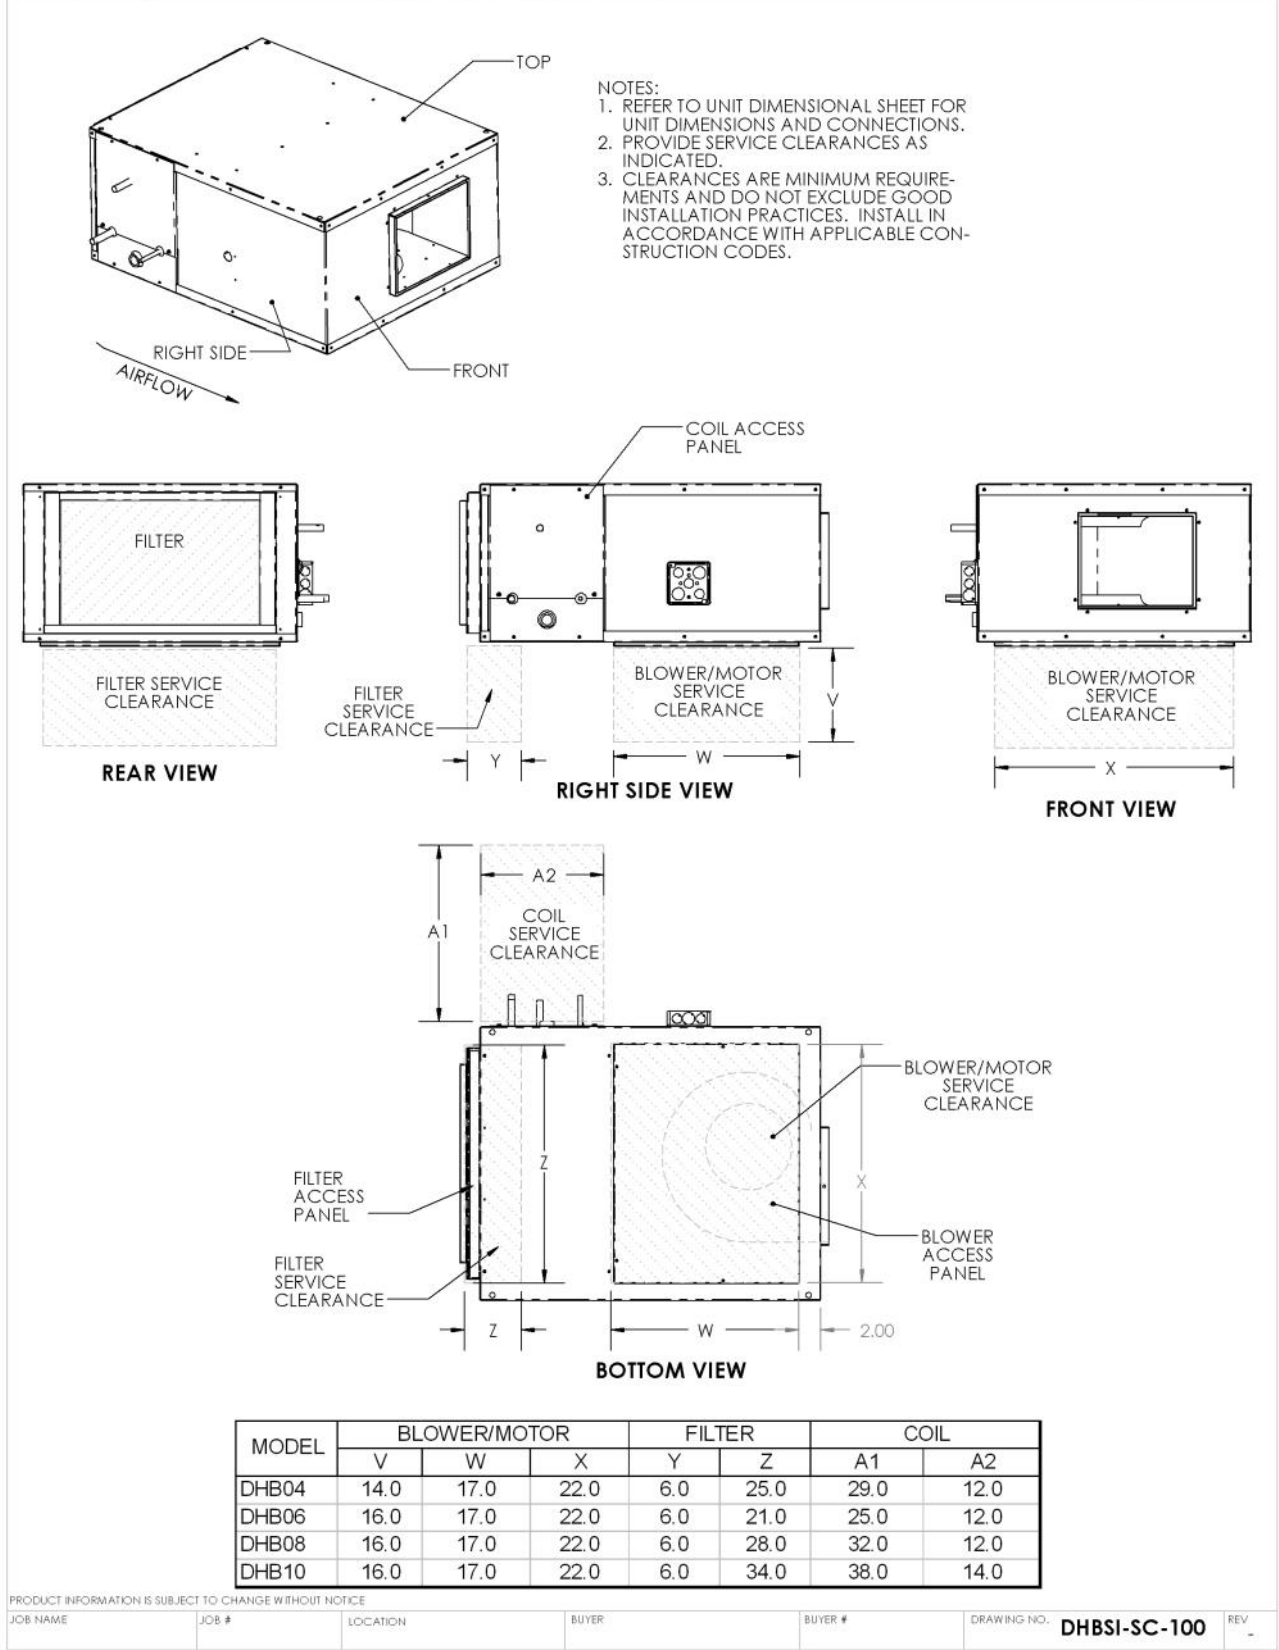

Figure 4
6. The fan coil requires service clearances as indicated in Figure 4. Units are approved for 0" (zero inches) of clearance. Units are designed for horizontal airflow discharge only.